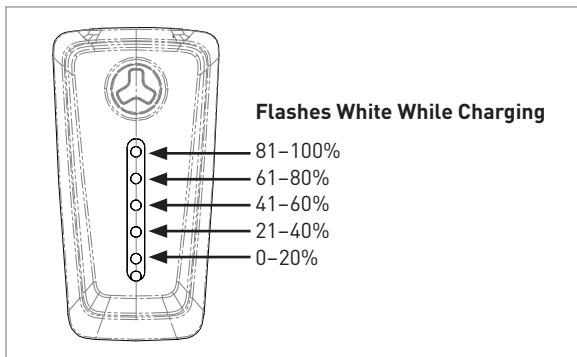

Figure 8
6. Progress of charging can be checked at any time by holding the CONTROL RING in the "ON" position for a few seconds. A series of 1 to 5 white LEDs will illuminate on the CONTROL HUB (Fig. 8). The total number of solid lights indicates the % of charging completed, in 20% increments. The flashing white light indicates the next 20% of battery capacity being charged. Once the fifth white flashing light goes solid, all five lights will change to a solid green color, indicating the charging is complete.